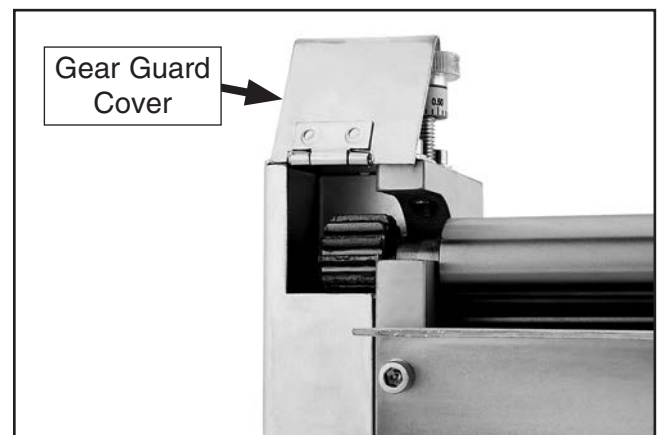

Figure 21. Gear guard cover opened.
2. Lift the gear guard cover (see **Figure 21**), then lift the upper roller up and out from the slip roll frame. Take care not to displace the compression springs underneath the bushings.